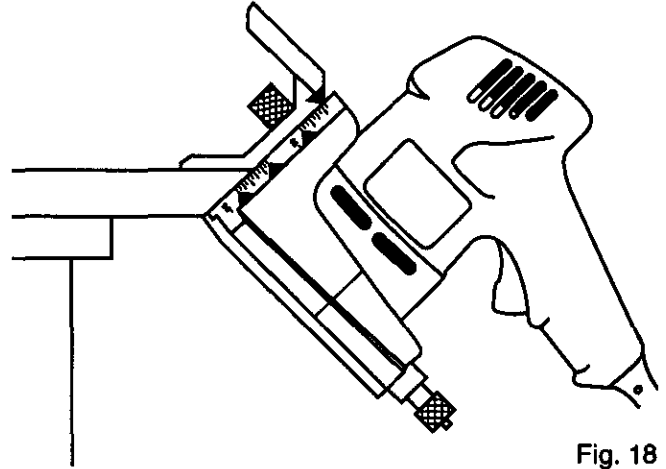

Fig. 18
- When making edge miter joints with workpieces that have different thicknesses, clamp securely to a workbench with the long sides up. This will assure that the outside surfaces will match. See Figure 18.
- Place your Biscuit Joiner on workpiece with the fence resting on the long side of workpiece as shown in Figure 18. The front base should be against the mitered edge of the workpiece.